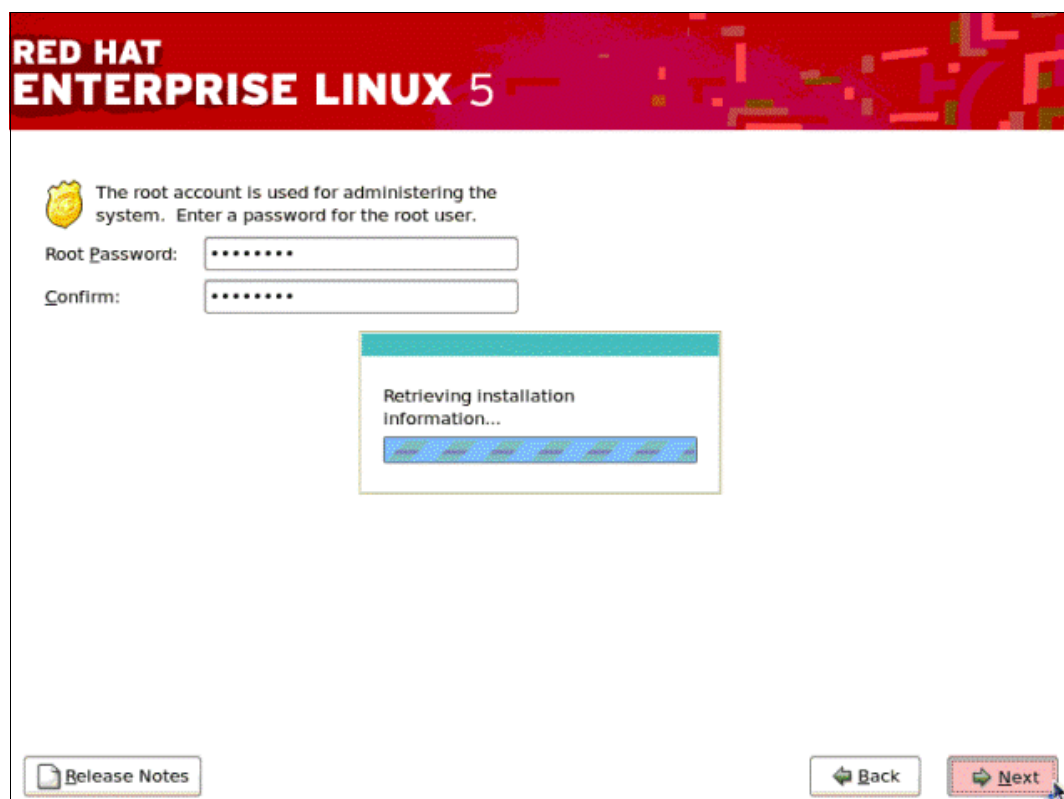

Figure 5-116 Set password
10. Select **TimeZone** and click **Next**. Set the *password* for the *root* user and click **Next**, as shown in Figure 5-116.